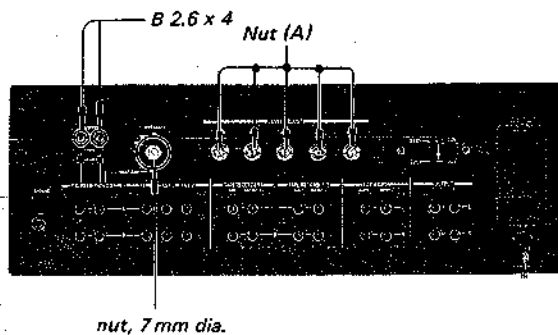

Fig. 2-10. K circuit board removal
1. Remove the two screws and the six nuts shown in Fig. 2-10.